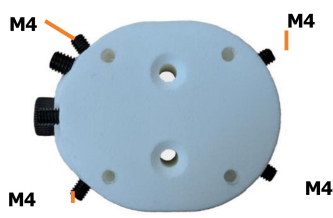

Figure 17b
- If you will be mounting the lock from the side of the socket, you will need to remove the distal screws. The distal M3 screws can be removed with a 1.5 mm hex wrench. Your dummy should look like the one shown in Figure 17b.
For **side mounting**, use a 2 mm hex wrench to insert the 4 provided **M4** set screws into the side mount holes of the dummy (Figure 17b).